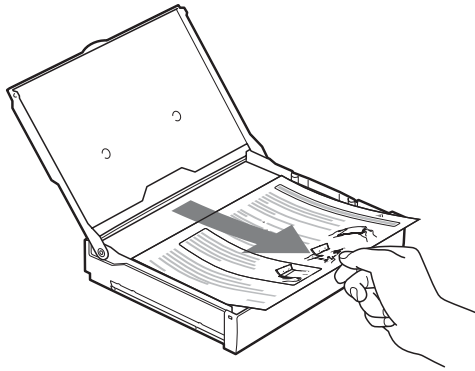

Figure 3.14
- 4** Remove the protective sheet (see Figure 3.14).